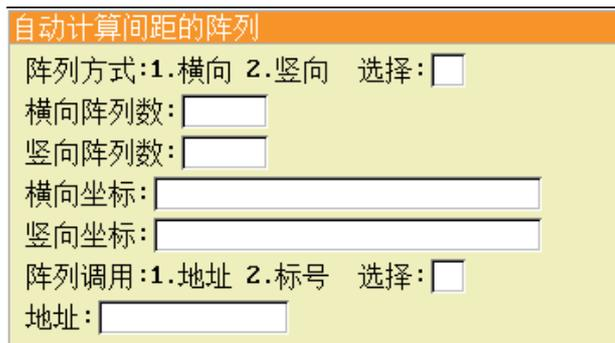

Figure 0.27 "Array with Automatic Pitch Calculation Settings Window"
2. Automatically calculates the pitch of the array. Usage Scenario: ① the plane of the fixture disk of the fixed workpiece is parallel to the plane of the XY axis of the machine, and the workpiece on the fixture disk is placed parallel to the direction of the X and Y axes of the machine in the transverse and vertical directions, i.e., it is compatible with the "array of inputting the
fixed value of the pitch"; ② the plane of the fixture disk of the fixed workpiece is not in line with the plane of the XY axis of the machine (at a certain angle of inclination) or the plane of the fixture disk is in line with the XY plane of the machine but the workpiece on the fixture disk is not parallel to the direction of the X and Y axes of the machine in the transverse and vertical directions. (b) The plane of the fixture disk for fixing workpieces is not consistent with the XY plane of the machine (at a certain inclination angle), or the plane of the fixture disk is consistent with the XY plane of the machine, but the workpieces on the fixture disk are not placed parallel to the X and Y axes of the machine in the horizontal and vertical directions. The setting window is as follows Figure 0.27 The setting window is shown in Figure 1.27.